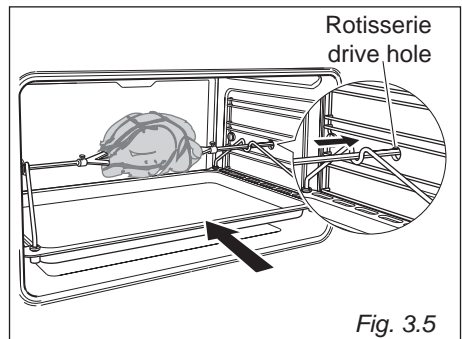

Fig. 3.5
4. **Place the rotisserie assembly in the oven** (fig. 3.5).